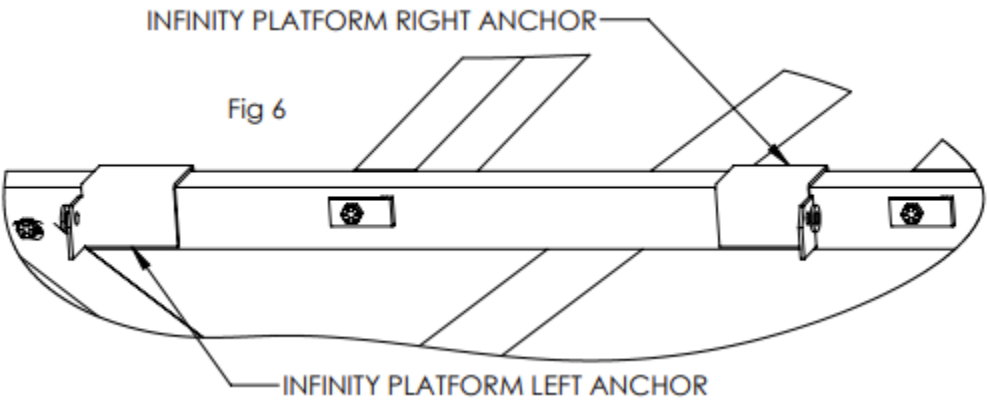

Fig 6
10. Place left and right infinity platform anchors on the rail of the base centered on the approximate door location of the blind. (Fig 6)